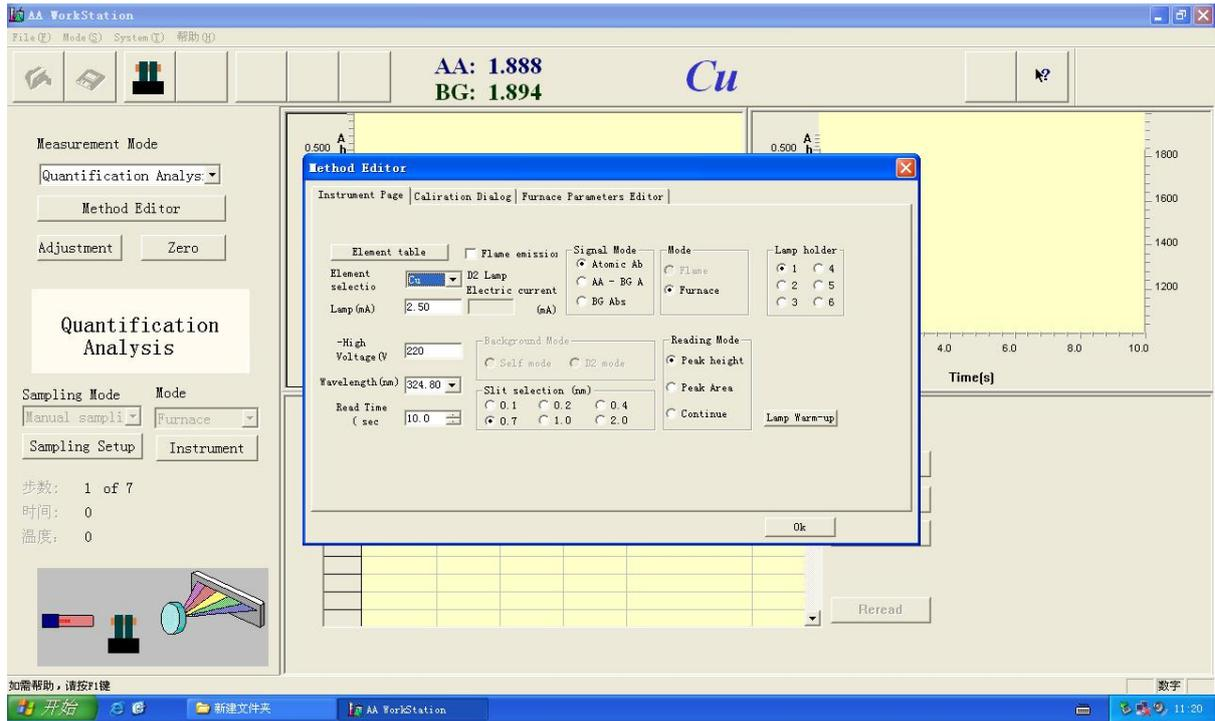

Figure 4-5
4. Click on **【OK】** button, the following is shown in Figure 4-5.